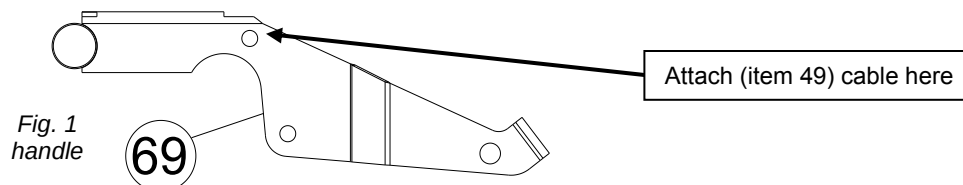

Fig. 1
3. **ATTACH** the tine lift cable (item 49) to the tine lever (item 69) in the center of the handle by inserting the pin (item 88) into it in the hole closest to the end of the handle and then inserting the rue ring (item 6). See *Fig. 1* below and reference Part Illustration on page 10.
4. **ATTACH** the drive cable (item 78) to the left side bracket on the handle (item 70) by sandwiching the two nuts on the bracket and tightening. Install cable adjuster (item 71) by threading it on the end of the cable until thread begins to show.